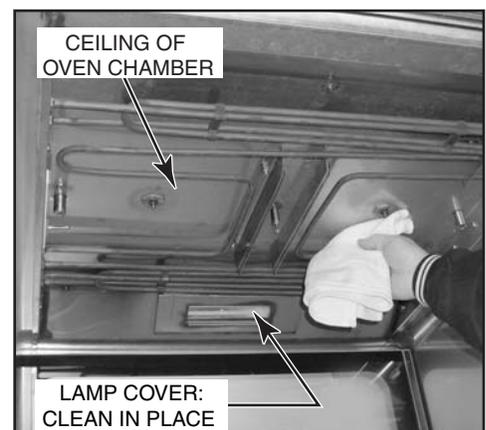

Figure 31
- Clean lamp cover with commercial glass cleaner or use warm soapy water, rinse, and dry (Figure 31).